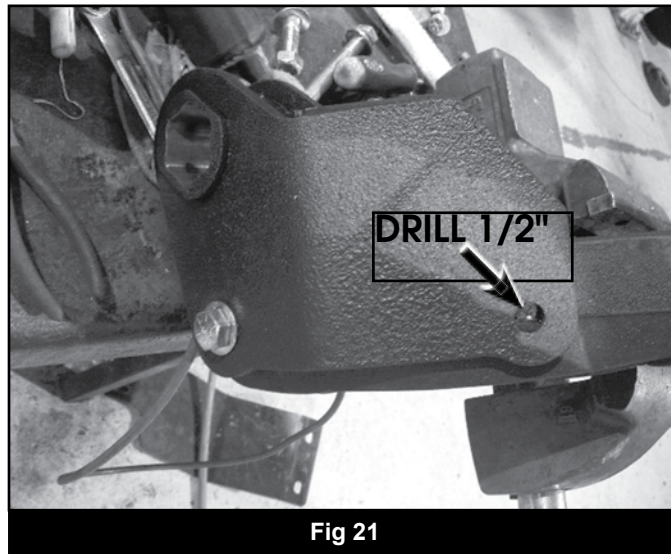

Fig 21
46. Install the torsion relocation brackets on the arm as shown. Rotate the arm so that the flat bracket rests on the control arm. Mark the hole center and drill to  $\frac{1}{2}$ ". Attach with  $\frac{1}{2}$ " x 1-3/4" bolt with washer on the head of the bolt, and a serrated flanged nut on the inside of the control arm. Use loc-tite on the threads and tighten to 65 ft-lbs (Fig 21).